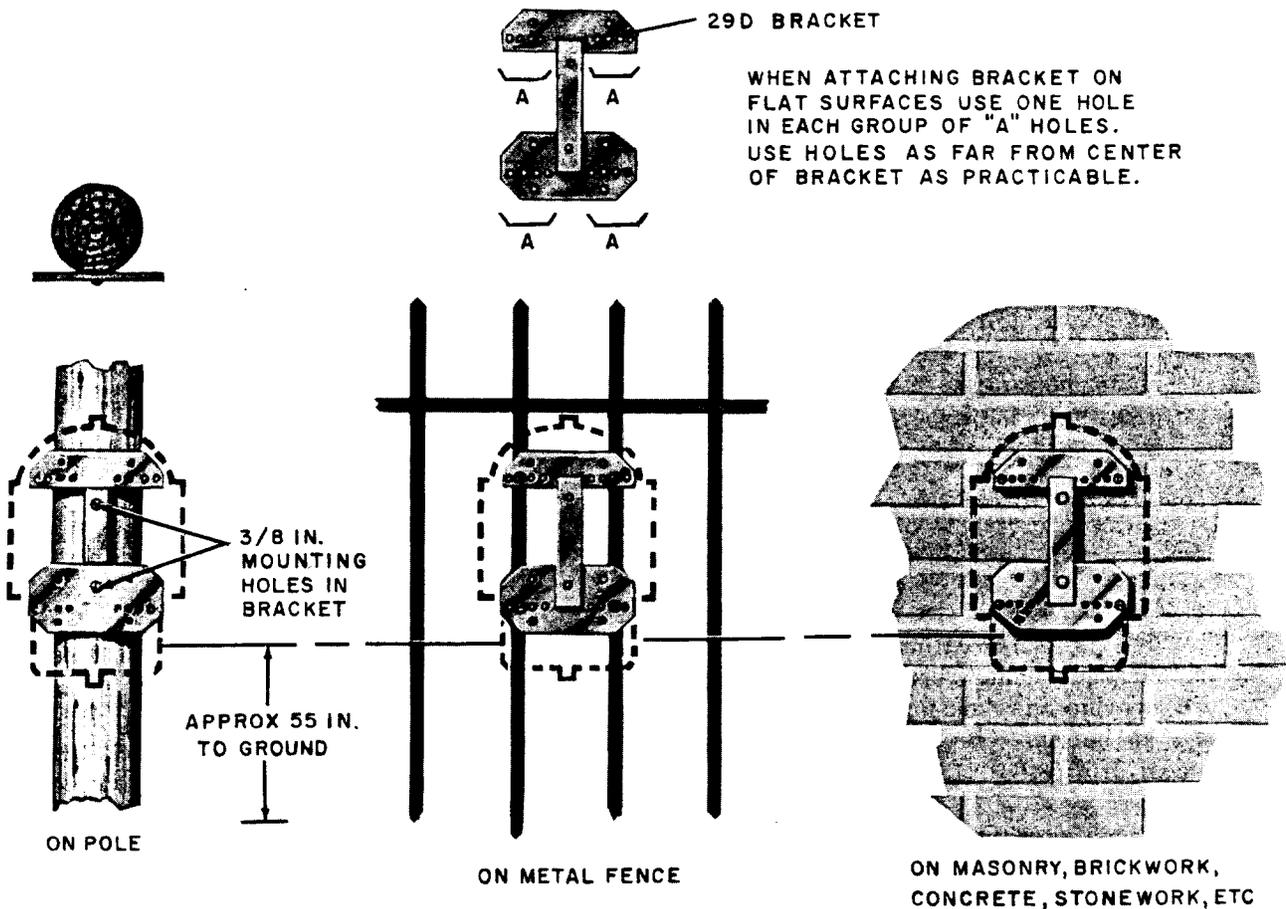

Fig. 5—29D Bracket Mounted on Various Surfaces
(1) The 325-type telephone set should be mounted on a 29D bracket (ordered separately) and fastened to various surfaces shown in Fig. 5 and Table A.
(2) Fasten the 29D bracket in a suitable location using hardware furnished locally. Consider the following: